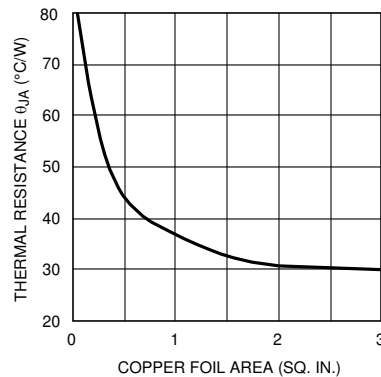

图 6-4. Thermal Resistance (Typical) for 7-L DDPAK Package Mounted on 1 oz. (0.036 mm) PC Board Foil
5. Choose a copper area that will ensure the specified  $T_{J(MAX)}$  for the calculated  $\theta_{JA}$ .  $\theta_{JA}$  as a function of copper area in square inches is shown in Figure 6-4.
4. Finally, using this value for  $\theta_{JA}$  choose the minimum value of copper area from Figure 6-4.
Examining 图 6-4, we see that we cannot attain this low of a thermal resistance for one layer of 1 oz copper. It will be necessary to derate the part by decreasing either the ambient temperature or the power dissipation. Other solutions are to use two layers of 1 oz foil, or use 2 oz copper (see 表 6-1), or to provide forced air flow. One should allow about an extra 15% heat sinking capability for safety margin.